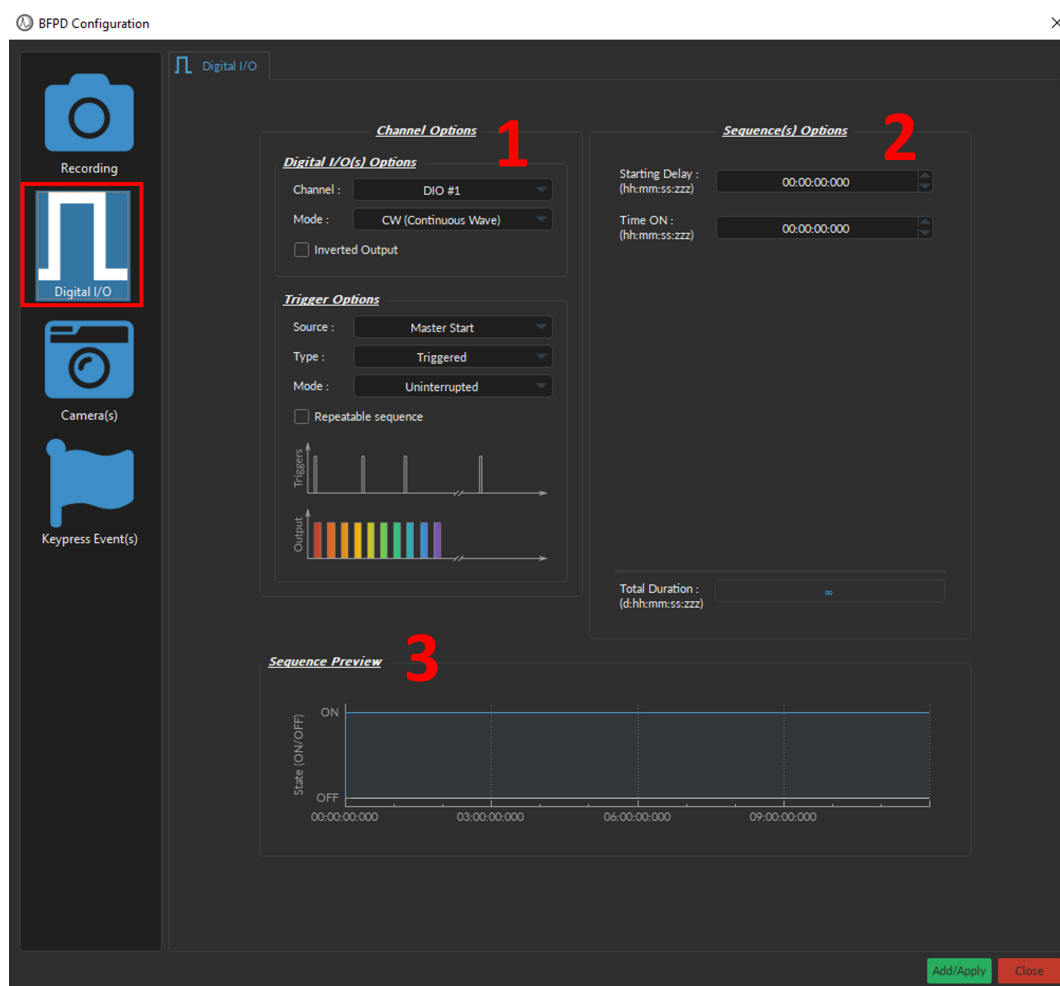

Figure 13.17: *Channel(s) configuration window, Digital I/O - CW mode*
The *Channel(s) Configuration* window for the **Digital I/O** Channel is divided into three sections (Fig. 13.17): (1) the **Channel Options** (Section 13.4.4.1), (2) the **Sequence Options** & (3) **Preview** (both treated in Section 13.4.4.2).